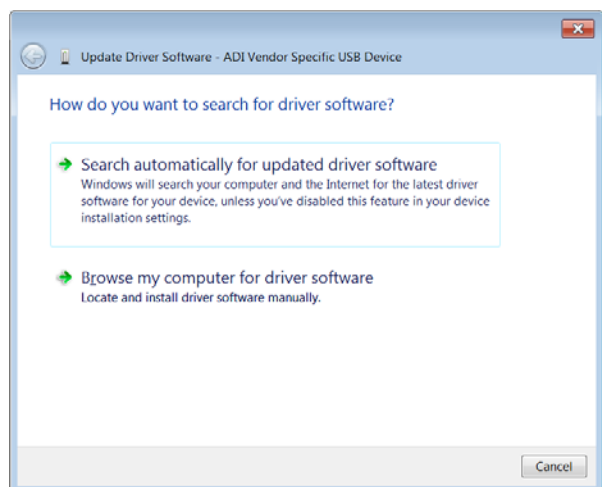

Figure 10. Update Driver Pop-Up
4. To install the drivers for the device, click **Browse my computer for driver software** in the update driver software pop-up that appears (see Figure 10).